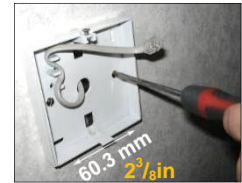

Fig 11
- Step 2** Feed one end of the RJ control cable through the switch box, feed and secure the RJ control cable through the back case and secure back case to switch box using 2 mounting screws (not supplied)(see Fig 11).